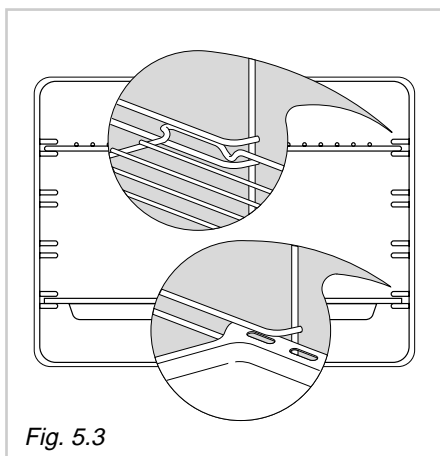

Fig. 5.3
- Slide the drip pan and rack into the runners as shown in Fig. 5.3.